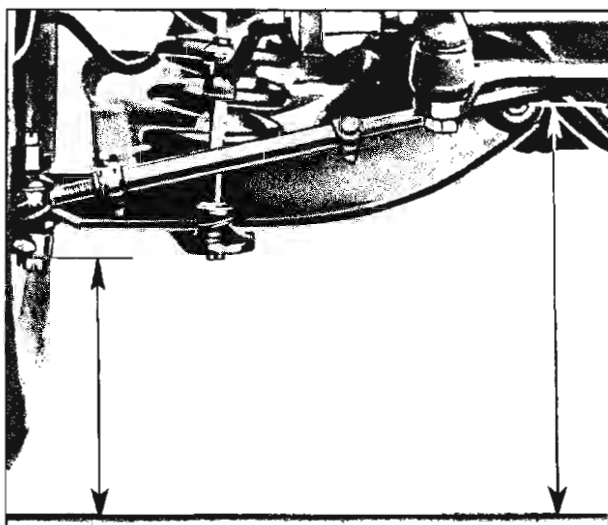

Fig. 13—Checking Riding Height
3. Measure the distance from the floor to the center of the front inner pivot of lower control arm (fig. 13). Record this measurement.